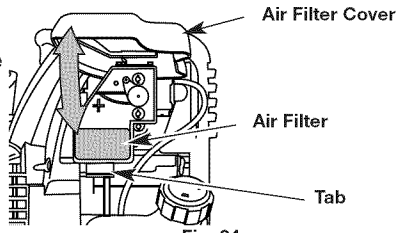

Fig. 24
1. Open the air filter cover. Push the tab on the under side of the cover inward. Then pull the air filter cover out and up. (Fig. 24).
7. Reinstall the air filter cover. Position the slots on the top of the air filter cover onto the tabs at the top of the back plate (Fig. 24).
8. Swing the cover down until the tab on the air filter backplate snaps into place in the slot on the air filter cover (Fig. 24).